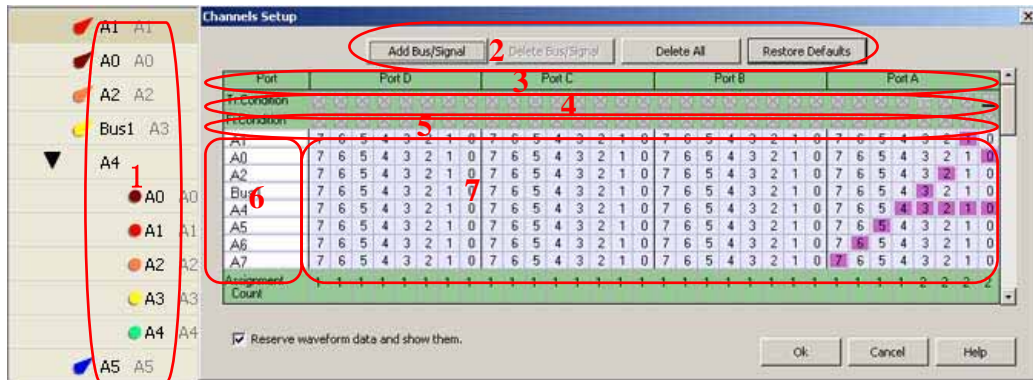

Fig 4-29 – Channels Setup Window
1. Delete Bus/Signal: Firstly highlight the Bus or channels on area 6 of Fig 4-29, then click **Delete Bus/Signal** to delete them.
2. Delete All; Click **Delete All** to delete all Bus/signals on area 6 of Fig 4-29.